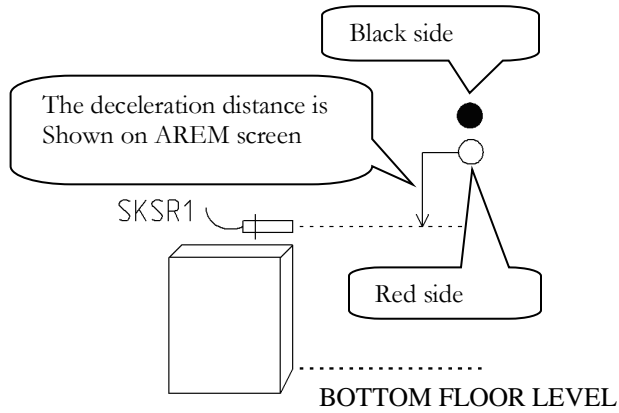

Figure-12: Installation of magnets for SKSR1 bottom
- Make the installation of round magnets for SKSR1 bottom limit switch (bottom correction sensor). The cables of SKSR1 magnetic switch must be connected 100 and 817 terminals in IBC board. Round magnets of bottom limit switch must be put as shown Figure-12. The needed distance for magnets is shown on AREM screen When parameter “**Shaft Learning**” is selected.